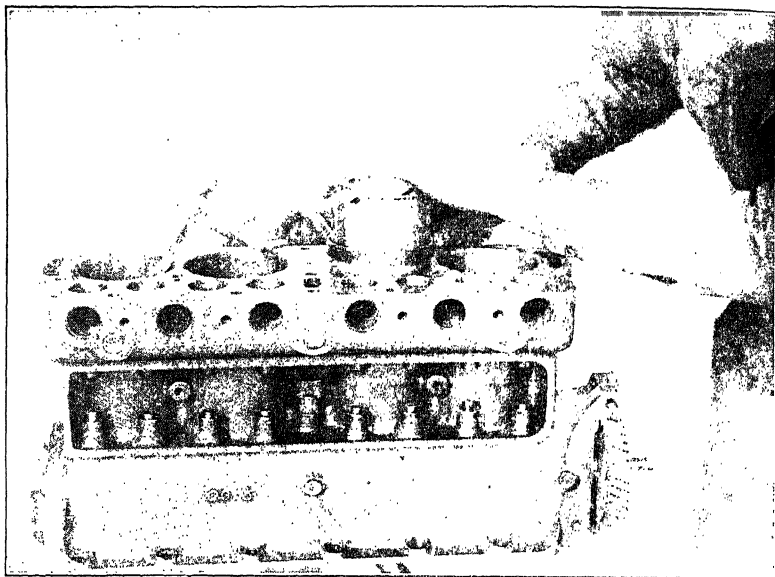

Fig. 47. Piston-Ring Squeezers May Be of Simple Design as the One Shown in Use, or the Universal Design Similar to the Tool on the Cylinder Block.
**Placing Piston and Rod Assemblies in Cylinders.** Fig. 47 shows the use of a ring compressor used in installing pistons in 1937 Oldsmobile engines. When the pistons are installed from the top, it is comparatively simple to use one of these compressors, forcing the rings into the grooves by means of it and forcing the rings down into the cylinder with the other hand. When the piston must be forced up from the bottom, the job is not so simple. However, in